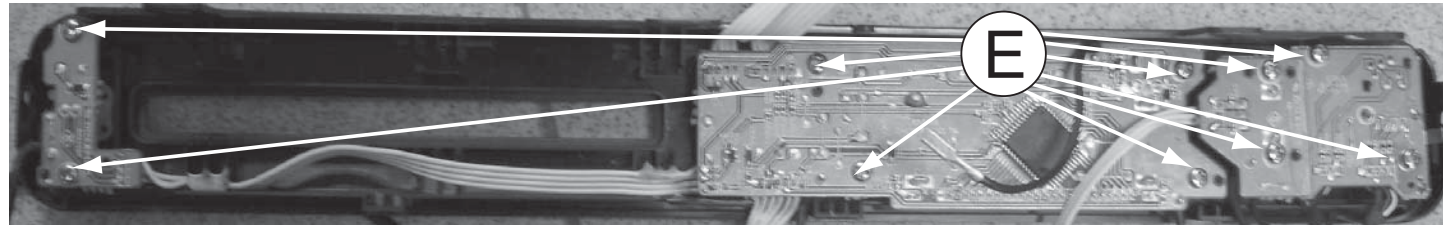

Figure 8
- 1) Loosen 10 screws "E" on the top of DISP+LED+VOL&MP3 IN Board as shown in figure 8.